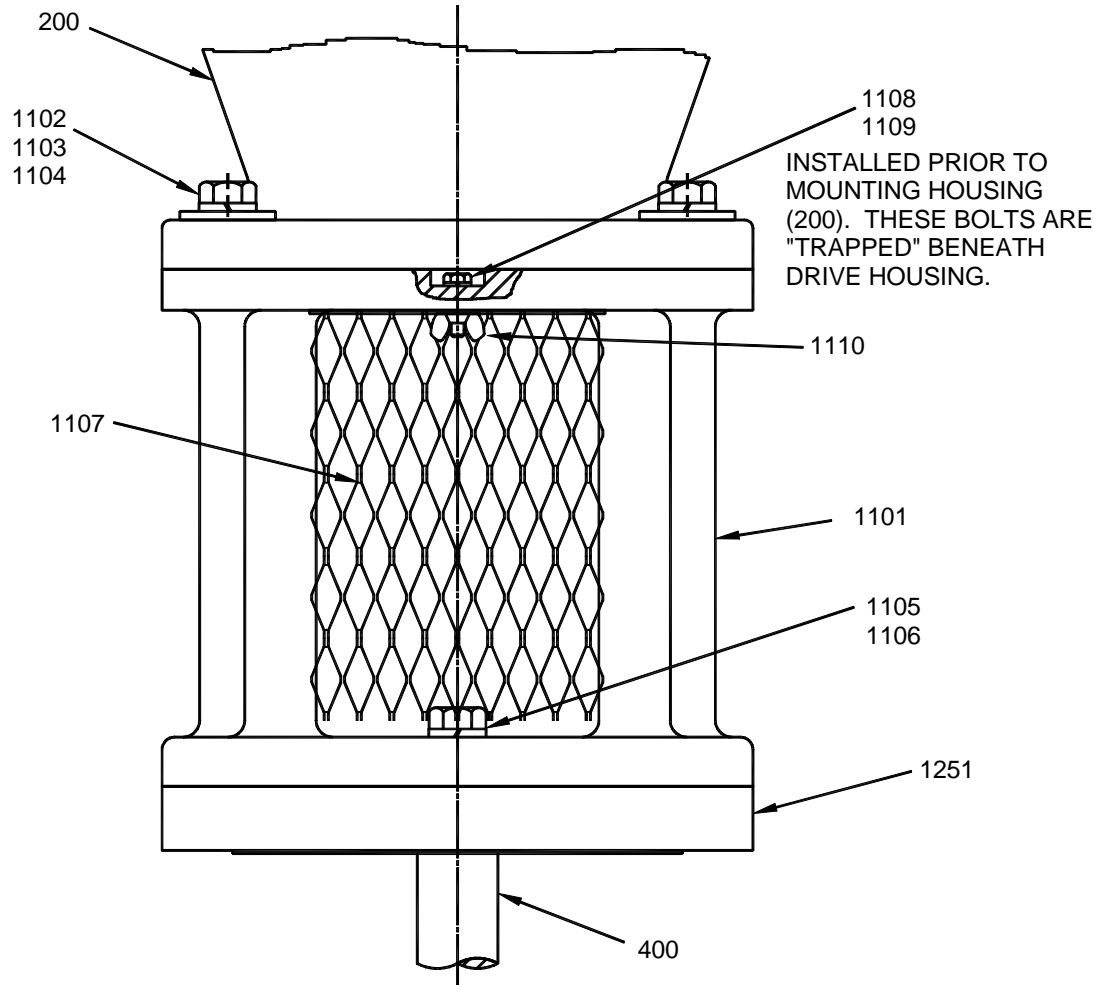

Figure 4: Handhole Cover Assembly
3. Install handhole cover bolts and lockwashers [1108, 1109] into the pedestal [1101]. Refer to *Figure 4, page 9*. Assemble pedestal to mounting flange using bolts and lockwashers [1105, 1106]. Torque bolts to the value shown in *Table 7, page 19*.